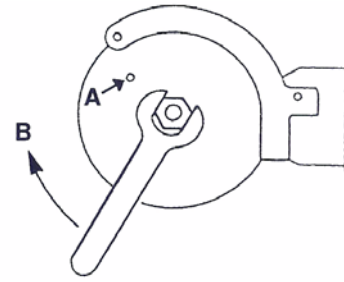

Figure 5: Fixing the saw blade
- Insert the retention pin as a twist lock into the saw blade bore and the bore below (A) (see Fig. 5).
- Tighten the hex. nut securely - turn in clockwise direction (arrow B) and tighten to approx. 50 Nm (see Fig. 5).